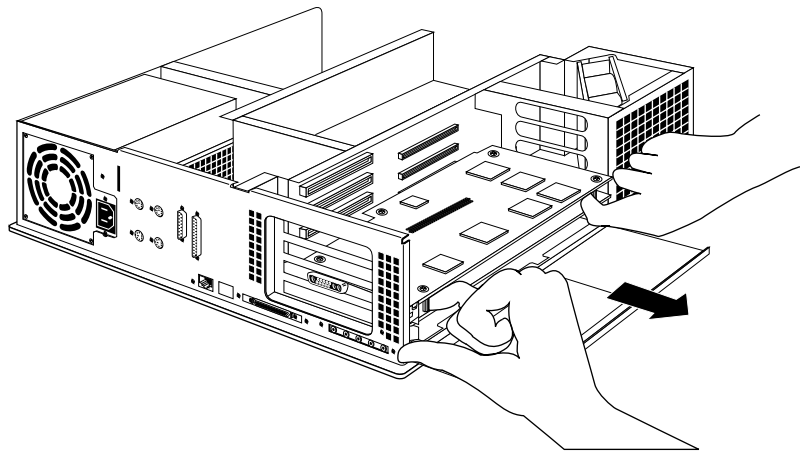

Figure 2-19 Pulling the Board Set out of the Chassis
5. Pull the board set out of the workstation, as shown in Figure 2-19.